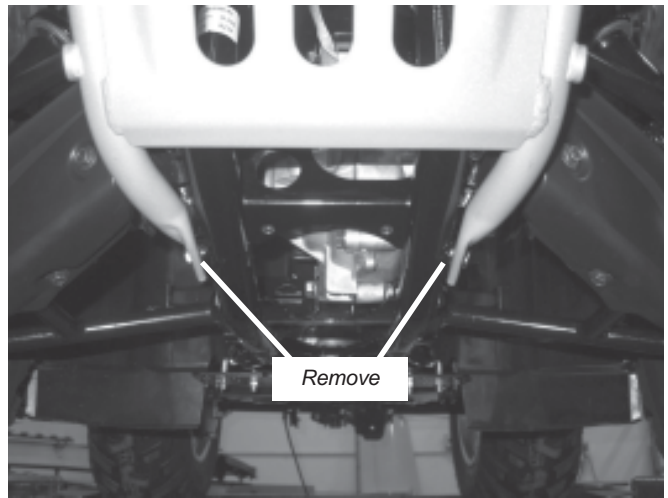

Figure 5 Remove Bottom Bumper Bolts
5. Remove the two bottom bumper bolts that attach the bumper to the bottom of the vehicle frame, figure 5. Save the fasteners as they will be used to reinstall the front bumper.